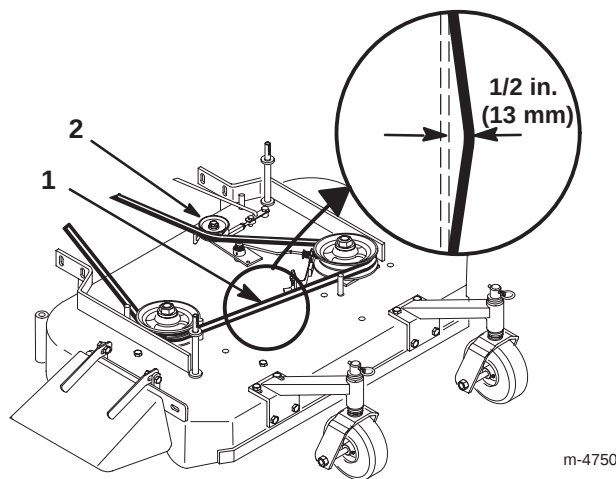

Figure 56
4. Remove the idler pulley and the worn belt (Fig. 56).
Note: The proper mower belt tension is 10–15 lbf. (44–67 N) with the belt deflected 1/2 in. (13 mm) halfway between the pulleys (Fig. 56).